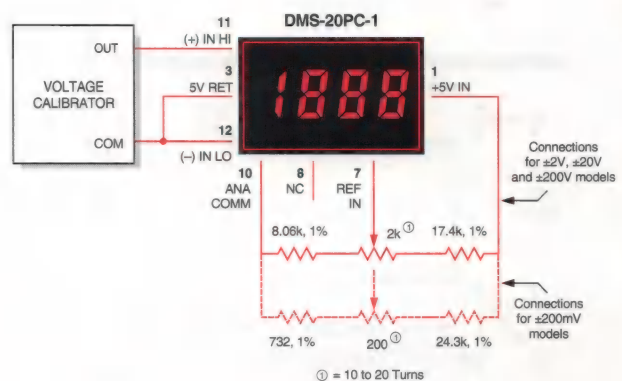

Figure 10. External Gain Adjustment
- 6. Gain Adjust:** There is a gain-adjust potentiometer on the back of each meter. It has approximately  $\pm 50$  counts ( $\pm 2.5\%$ ) range of adjustment. Since these devices essentially have no zero/offset errors, a gain adjustment is effectively an overall accuracy adjustment. Though they may be performed at any point (except zero), accuracy adjustments are most effective when performed with higher level input signals. The circuit shown in Figure 10 provides  $\pm 10\%$  range of adjustment.
8. **External Gain Adjustment:** Connect REFERENCE OUT (pin 8) to REFERENCE IN (pin 7) for normal, factory calibrated, operation. Use the circuit shown in Figure 10 for applications needing external gain adjustment. Calibration is performed with a precise, near-full-scale, input voltage.